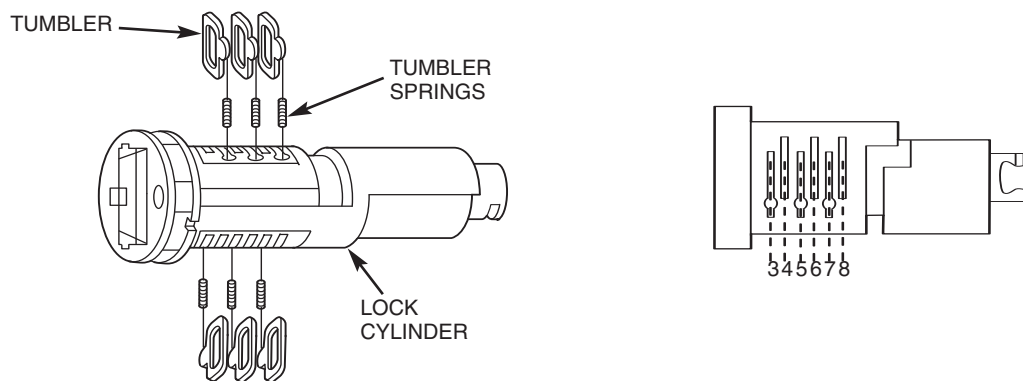

FIGURE 3
6. Insert the required tumblers into tumbler wards in the proper orientation (refer to Figure 3) and in the sequence that match the key cut depths, for key stations 3, 4, 5, 6, 7, and 8.
12. Rotate cylinder with key 360 degrees, then push back until lock fully seats, then release and allow the lock to rotate back 90 degrees into the key out position.
14. Rotate the lock cylinder within the lock case at least ten (10) times so that the grease applied to the tumblers is distributed along the inner surface of the lock case and the exterior surface of the lock cylinder.